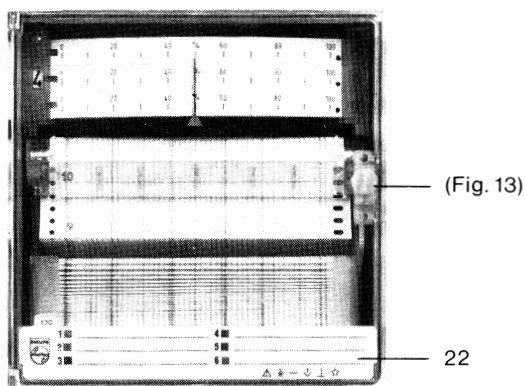

Fig. 15 Front of Motorized Point Recorder 144
On recorders with 2 . . . 6 measuring ranges the correlation between the input channels and measuring ranges is marked on the channel identifying label (22, Fig. 15) as shown below:
(22, Fig. 15)
The channel identifying label (22, Fig. 15) is fitted to the inside of the recorder door. It is intended for TAG marking or for similar channel identification.
- (22, Fig. 15) Channel identifying label (remove backwards)